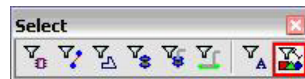

Figure 19 - Select Toolbox (Select Other Objects)
- e.) The rectangle will appear as a solid, filled-in shape. Click on the **Enable selecting Other Objects** icon in the Select toolbar (Figure 19) and double-click on the solid rectangle.
b.) Click on the **Enable selecting Other Objects** icon in the Select toolbar (Figure 19) and right-click on the rectangle package shape. Select **Copy** in the pop-up menu.